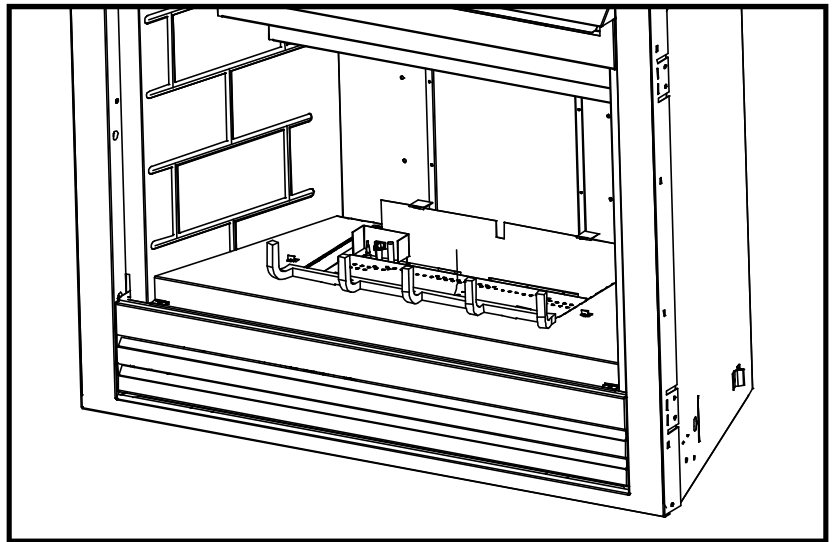

Figure 42
6. Position the grate into the cutout in the refractory. Hook the grate into position using the tabs on the bottom of the grate. Make sure the grate is pulled forward on the refractory (see Figure 42).